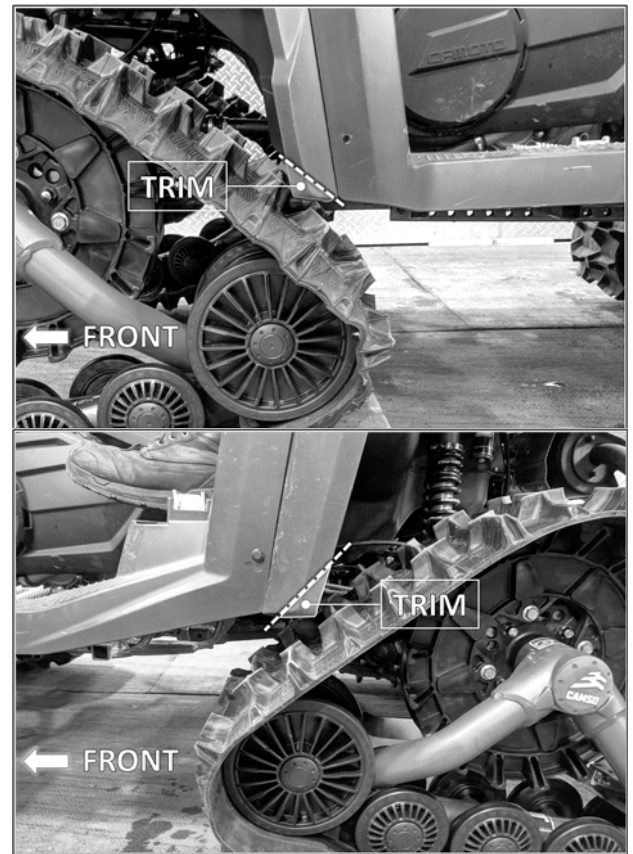

Fig. 24
3. To prevent any possible contact between the undercarriages and the fenders, the lower corners of the fender flares should be trimmed. These modifications will help to avoid damages to the vehicle and the Track System. See Fig. 24